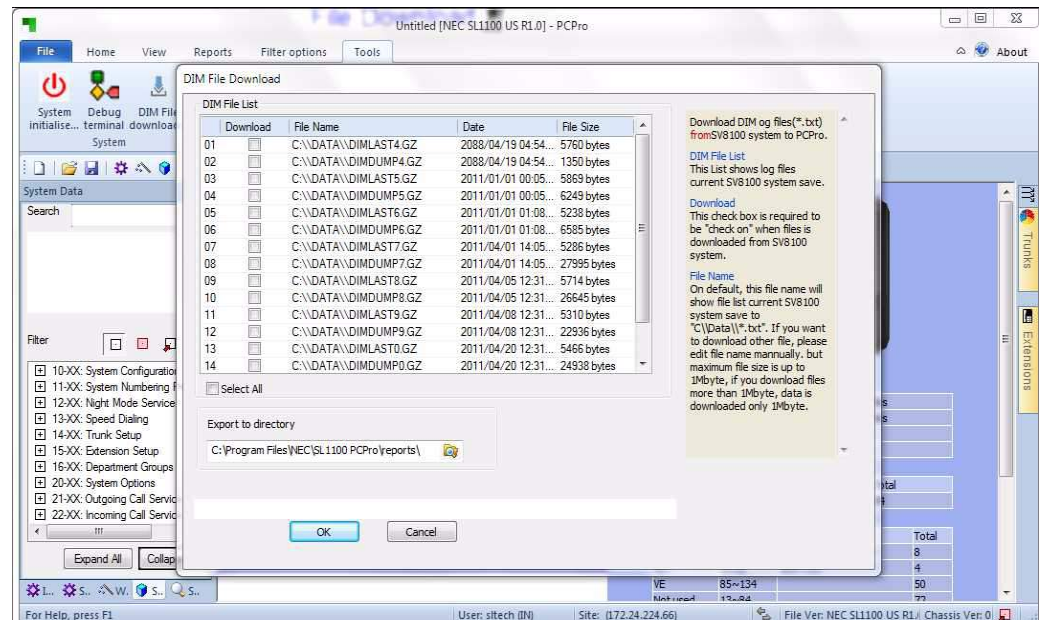

Figure G-1 DIM File Download
1. From the PCPro toolbar, select **Tools> DIM File Download**. A DIM File Download dialog box appears, Figure G-1 - DIM File Download.